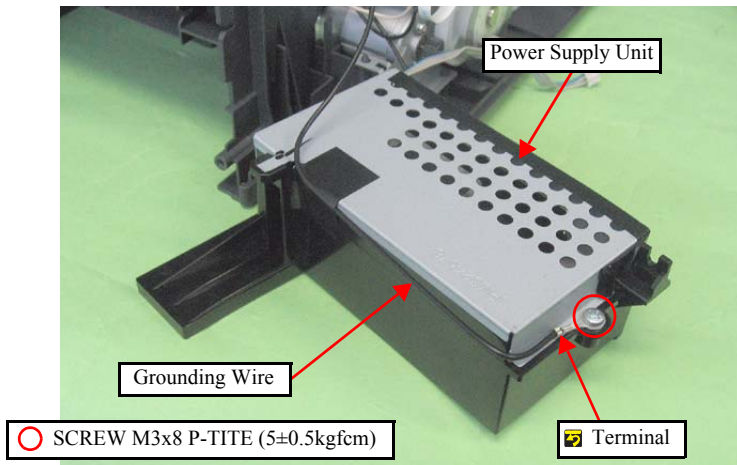

Figure 4-24. Removing the Power Supply Unit
- When installing the Grounding Wire, make sure that the terminal of the Grounding Wire gets contact with the plate of the Power Supply Unit as shown in Fig.4-24.